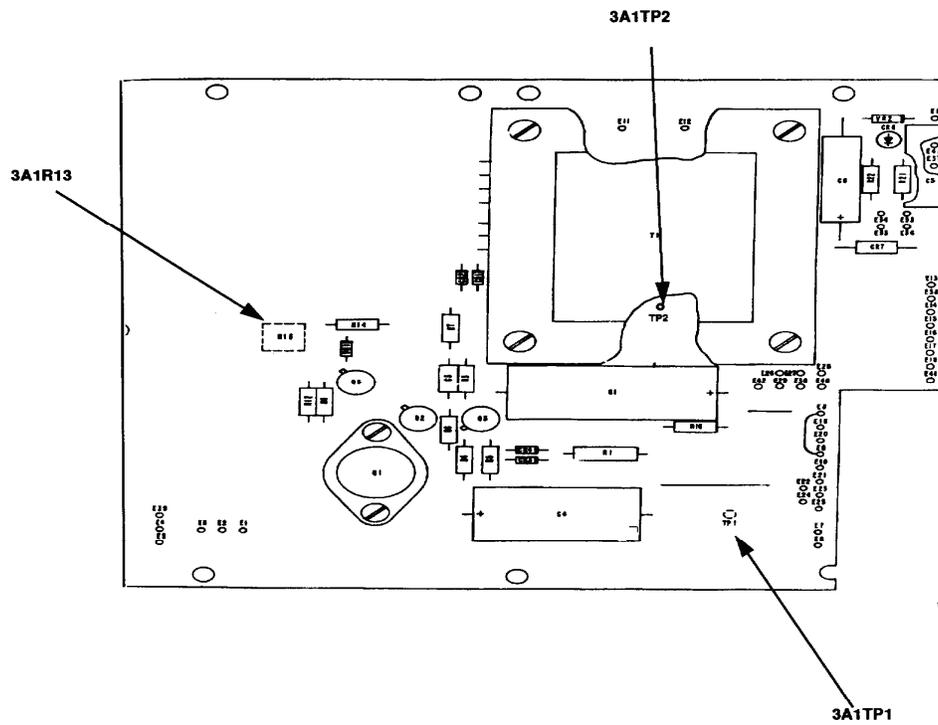

Figure 3. Regulated power supply 3A1 - location of parts.
**a. Performance Check.** Connect multimeter positive lead to 3A1TP1 (fig. 3) and connect negative lead to 3A1TP2 (fig. 3). If the multimeter does not indicate between +14.49 and +14.51 V dc, perform **b** (1) below.
**b. Adjustments.** Adjust 3A1R13 (fig. 3) for a multimeter indication between +14.49 and +14.51 V dc (ideal 14.50 V dc) (R).